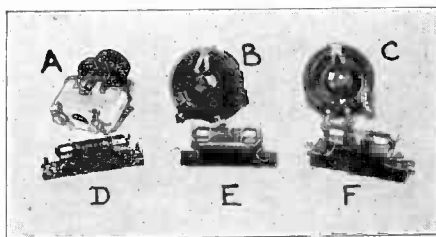

Fig. 50: A, B and C, filament rheostats. D, E and F, ballast resistors.
84. BALLAST RESISTORS: The elimination of a multiplicity of controls on receivers has become popular. It has been found that, in battery operated receivers, most of the rheostats can be supplanted by automatic voltage regulating devices called *filament ballast resistors* (Fig. 50). Their purpose is to regulate automatically the flow of current in a tube circuit and maintain the current value approximately constant over the entire voltage range of the "A" battery between its fully charged and discharged periods. They simplify set wiring and as there are no moving parts, rheostat wires are not noticeable. As the filament is kept at a more constant temperature, the tube life is lengthened.
Ballast resistors are made in various sizes, for controlling single tubes of the various types (Fig. 48C) or for controlling a number of tubes (48D). They are made with metal end caps and mount in clips (see Fig. 50).